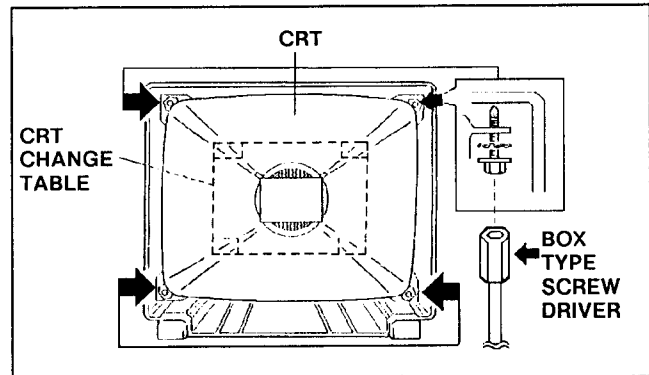
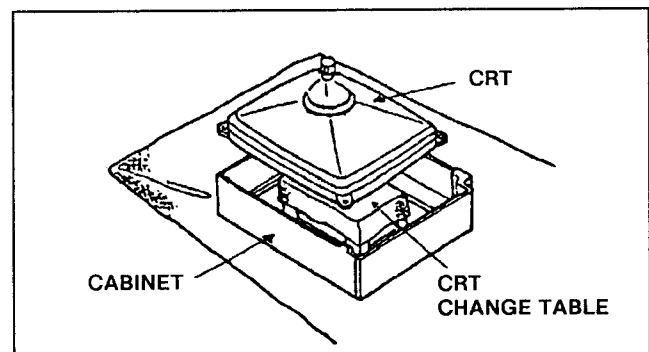

Fig. 5
Fig. 6
- 2. While keeping the surface of CRT down, mount the TV set on the CRT change table balanced will as shown in Fig. 5.
- 3. Remove four screws marked by arrows with a box type screw driver as shown in Fig. 5.
- 4. After four screws have been removed, put the cabinet slowly on cloth (At this time, be carefully so as not to damage the front surface of the cabinet) shown in Fig. 6.
- 4] While the "THANK YOU!!" display is on, press the MUTE key and the UP/DOWN key immediately thereafter, and get the SERVICE MODE screen of Fig. 5.
- 5] While the screen of Fig. 5 is on, press the UP/DOWN key and the SERVICE MODE MENU will come back. (Fig. 6)
(Fig. 5)
(Fig. 6)
- 1] Press the UP/DOWN key and select one of the following items. (Fig. 6)